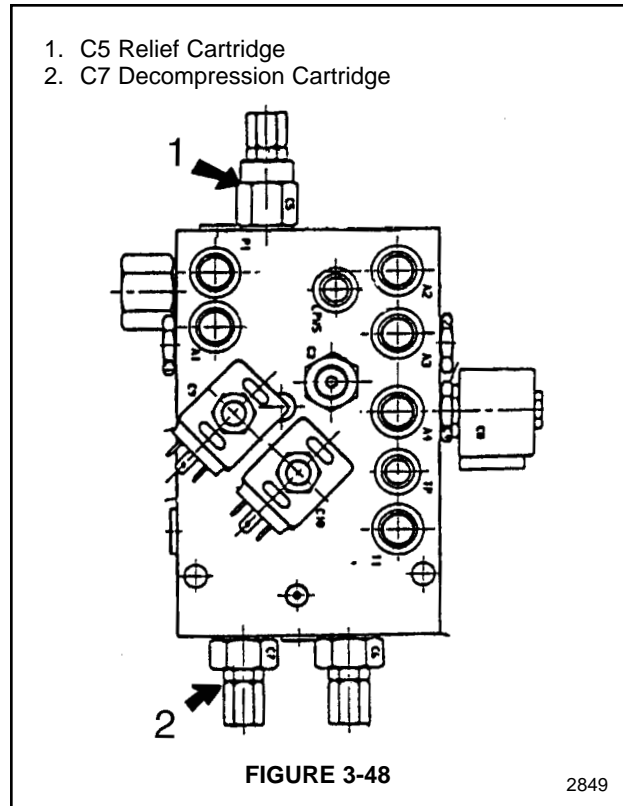

FIGURE 3-48
2. Adjust the C5 relief cartridge (1) on the brake pilot valve. See Figure 3-48. Relief pressure for unloading is 140 kg/cm² (1,991 psi). Relief pressure for loading is 120 kg/cm² (1,707 psi).
2. Adjust the C7 decompression cartridge (2) on the brake pilot valve. See Figure 3-48. Relief pressure should be set at 32⁺³ kg/cm² (455⁺⁴³ psi).